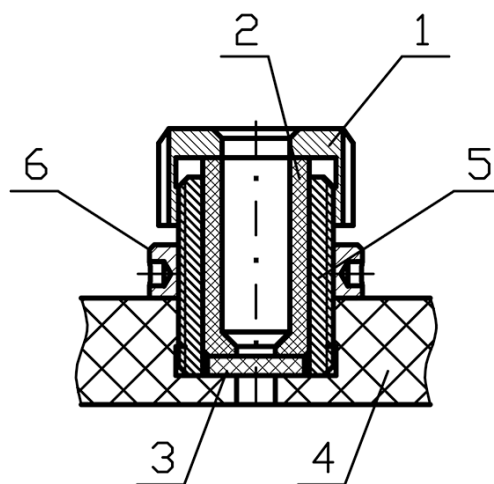

Figure 23
The septum is manufactured from flexible material which provides leak tightness of the cell during operation. It is recommended to replace the septum not less than after 100 pinholes. In order to replace the septum take off the cap (pos. 1 Figure 23). Take out a clamping sleeve (pos. 2). Take out the septum (pos. 3). Wash the clamping sleeve and install a new septum from a spare parts set. While installation of the septum and clamping sleeve make sure they are not warped, otherwise it can result in leak tightness breaking of the unit. Turn the cap (pos. 1) by force necessary for the septum deformation by 0.5÷1.0 mm which provides leak tightness of the unit.